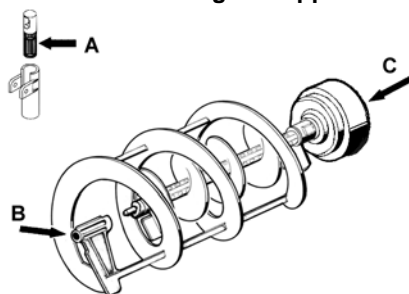

figure 12
- 2 Lubricate faucet piston, inside auger and outer spiral (see points A, B and C of figure 12) only with the grease supplied by the manufacturer or other **food grade approved** lubricant.